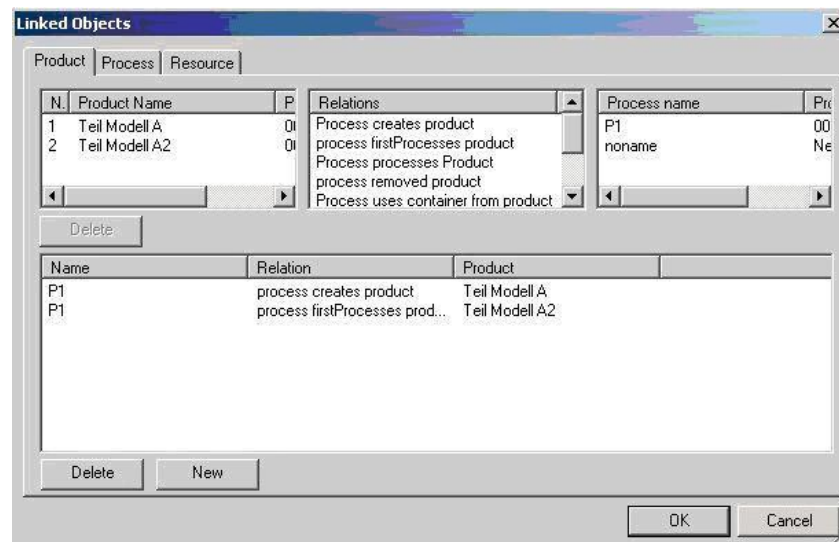

Figure 149: Linked Objects Dialog - Product Display
- In the Linked Objects dialog (*Please refer to the Figure 149*) relations can be generated between linked products and processes generated exclusively for this resource (resource-dependent processes).
- 2) Click **Linked Objects**. The **Linked Objects** dialog opens. *Please refer to the Figure 149.*
- 1) To create a relation between a product and a resource-related process, select the product followed by the relation and the process in the upper window. *Please refer to the Figure 149.*
- 2) After selecting, click **New** button. The selected relation is displayed in the bottom window. In the screenshot below, the **noname** process has been assigned to two relations: input process and output process. *Please refer to the Figure 149.*